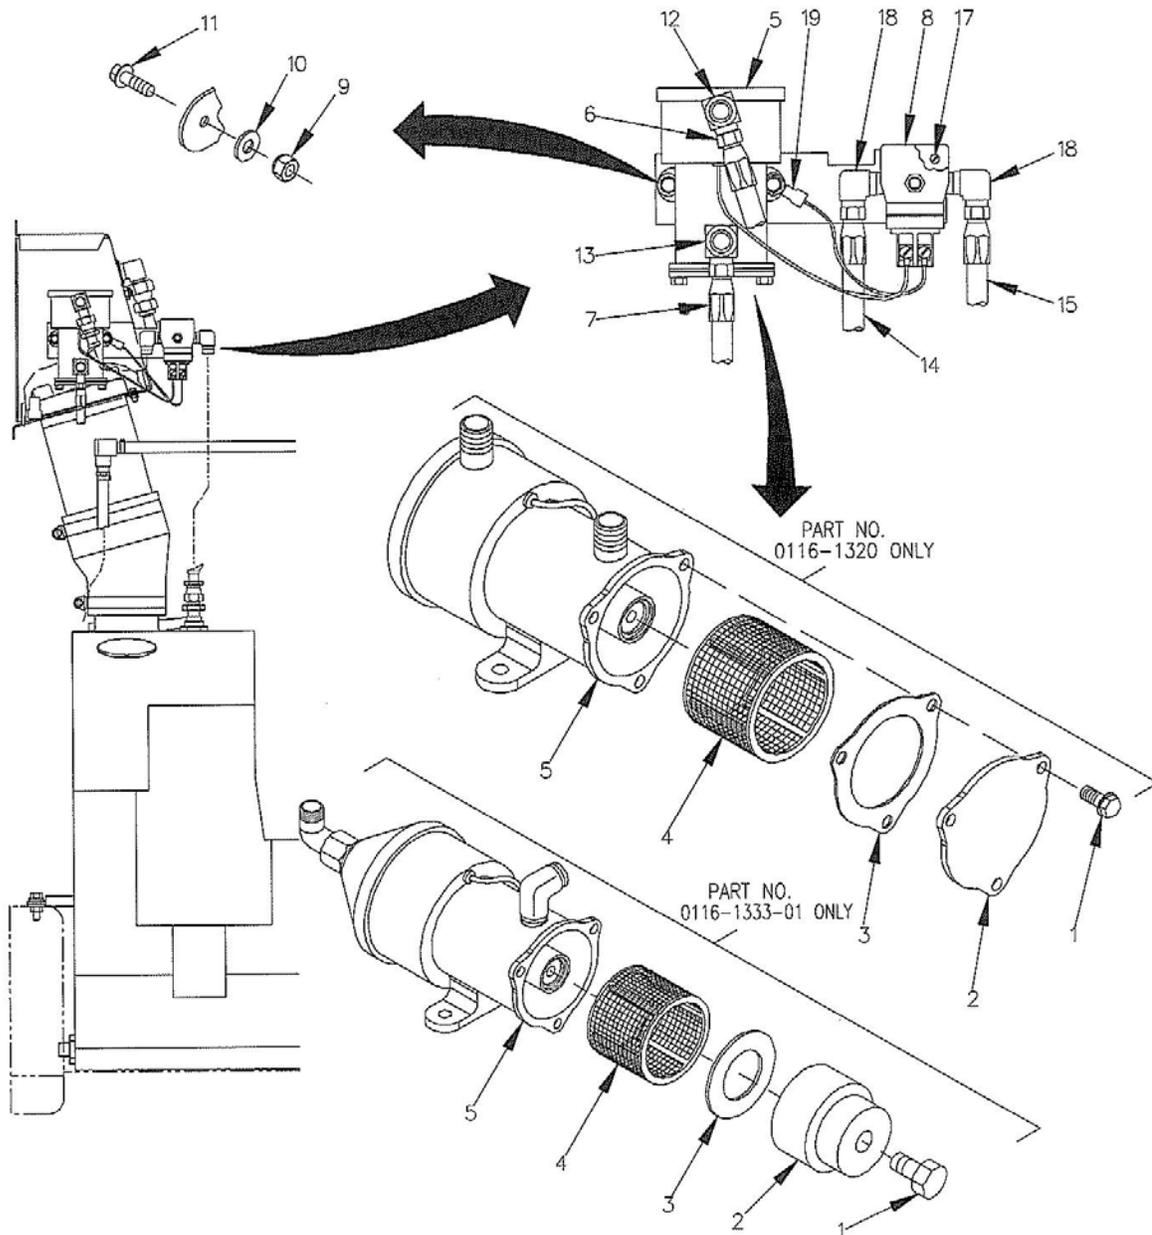

Figure 1. Main Fuel Pump and Auxiliary Fuel Pump Assembly with Solenoid Valve.
3. Remove bowl screw (Figure 1, Item 1) that secures fuel bowl (Figure 1, Item 2) to auxiliary fuel pump (Figure 1, Item 5).
4. Remove fuel bowl (Figure 1, Item 2), O-ring (Figure 1, Item 3), and strainer (Figure 1, Item 4) from auxiliary fuel pump (Figure 1, Item 5).
5. Clean strainer (Figure 1, Item 4) with clean fuel. Replace strainer if damaged.
6. Install strainer (Figure 1, Item 4), O-ring (Figure 1, Item 3), and fuel bowl (Figure 1, Item 2) on auxiliary fuel pump (Figure 1, Item 5) and secure with bowl screw (Figure 1, Item 1).
3. Disconnect hose (Figure 1, Item 6) and hose (Figure 1, Item 7) from auxiliary fuel pump (Figure 1, Item 5).
4. Tag and disconnect wires coming from solenoid valve (Figure 1, Item 8).
5. Remove two locknuts (Figure 1, Item 9), washers (Figure 1, Item 10), screws (Figure 1, Item 11), and auxiliary fuel pump (Figure 1, Item 5).
6. If necessary, remove elbow (Figure 1, Item 12) and elbow (Figure 1, Item 13).
7. Disconnect two hoses (Figure 1, Item 14) and (Figure 1, Item 15) from solenoid valve (Figure 1, Item 8).
8. Remove two screws (Figure 1, Item 17), lock washers (not shown), and solenoid valve (Figure 1, Item 8).
9. If necessary, remove two elbows (Figure 1, Item 18).
1. If removed, install two elbows (Figure 1, Item 18).
2. Install solenoid valve (Figure 1, Item 8), two lock washers (not shown), and two screws (Figure 1, Item 17).
3. Connect two hoses (Figure 1, Item 15) and (Figure 1, Item 14) to solenoid valve (Figure 1, Item 8).
4. If removed, install two elbows (Figure 1, Item 13) and (Figure 1, Item 12) to auxiliary fuel pump (Figure 1, Item 5).
5. Making sure ground lug (Figure 1, Item 19) is positioned between screw (Figure 1, Item 11) and washer (Figure 1, Item 10), install auxiliary fuel pump (Figure 1, Item 5), two screws (Figure 1, Item 11), washers (Figure 1, Item 10), and locknuts (Figure 1, Item 9).
6. Remove tags and connect wires to solenoid valve (Figure 1, Item 8).
7. Connect hose (Figure 1, Item 7) and hose (Figure 1, Item 6).